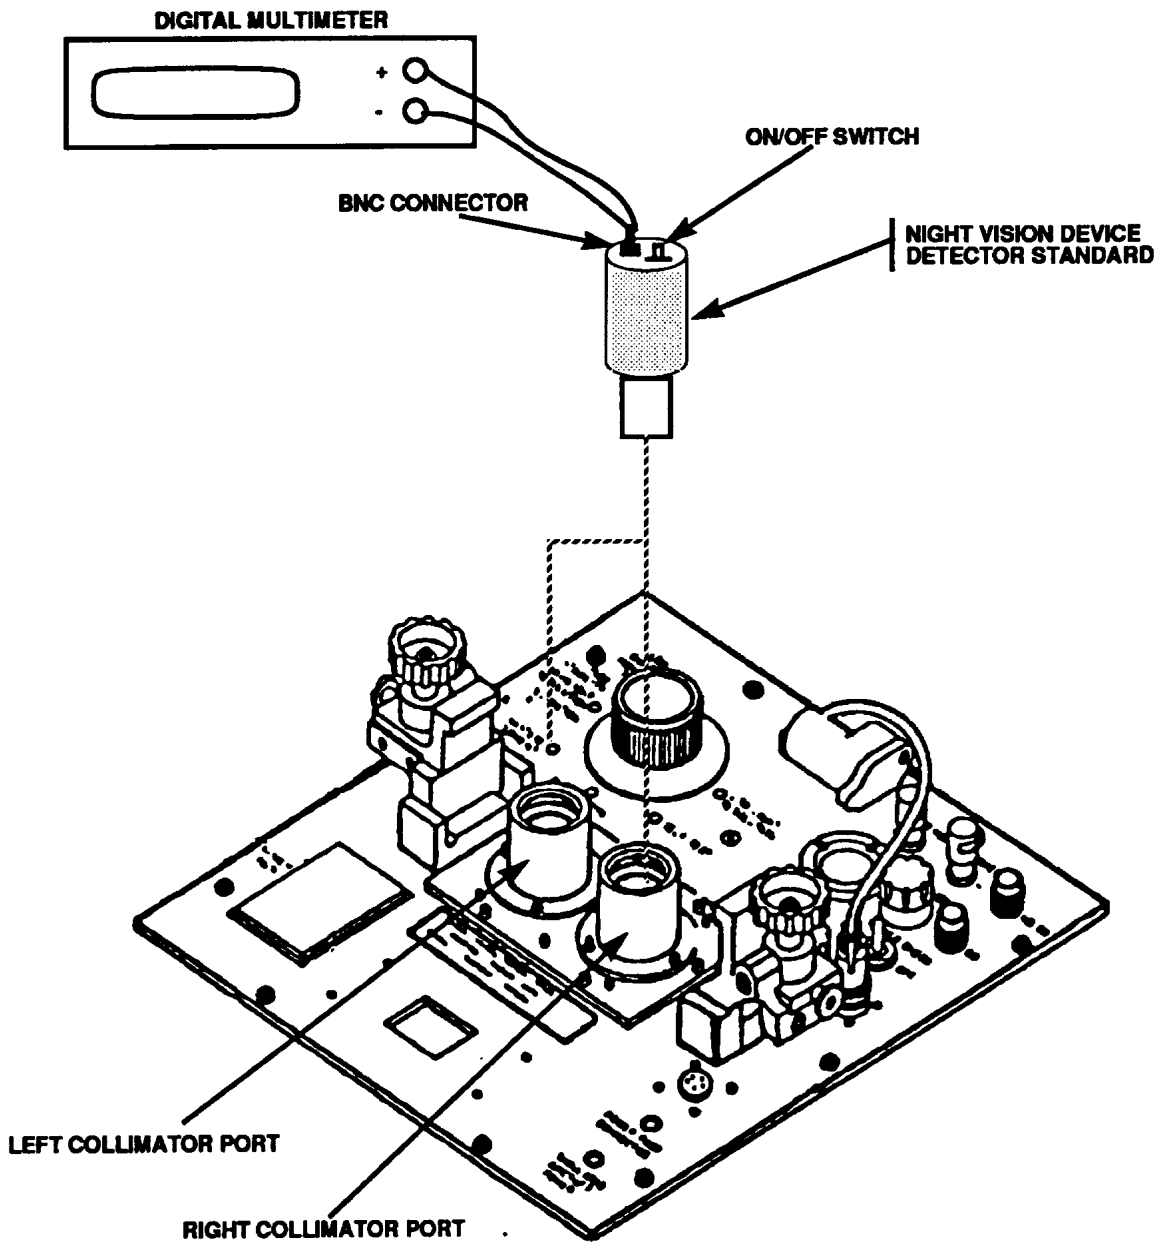
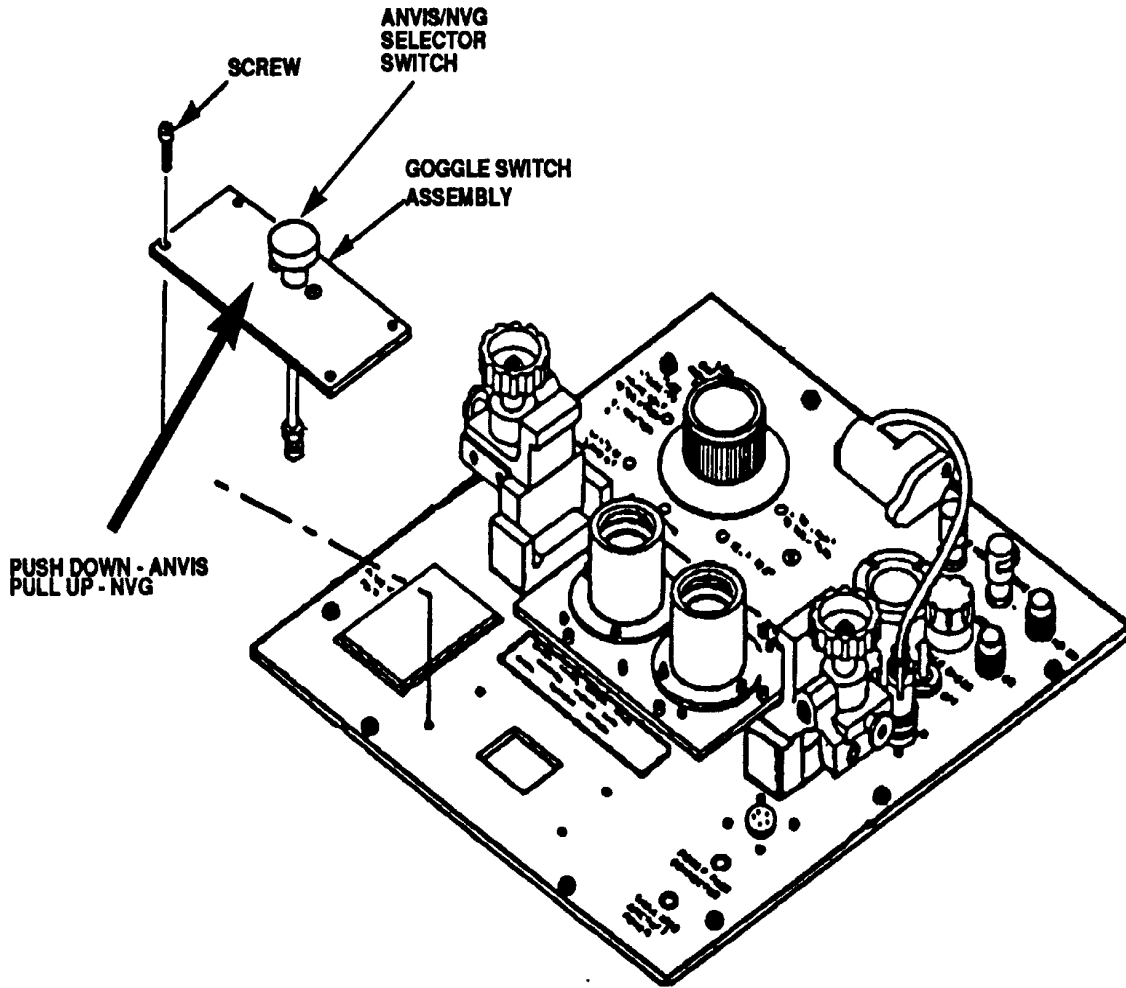
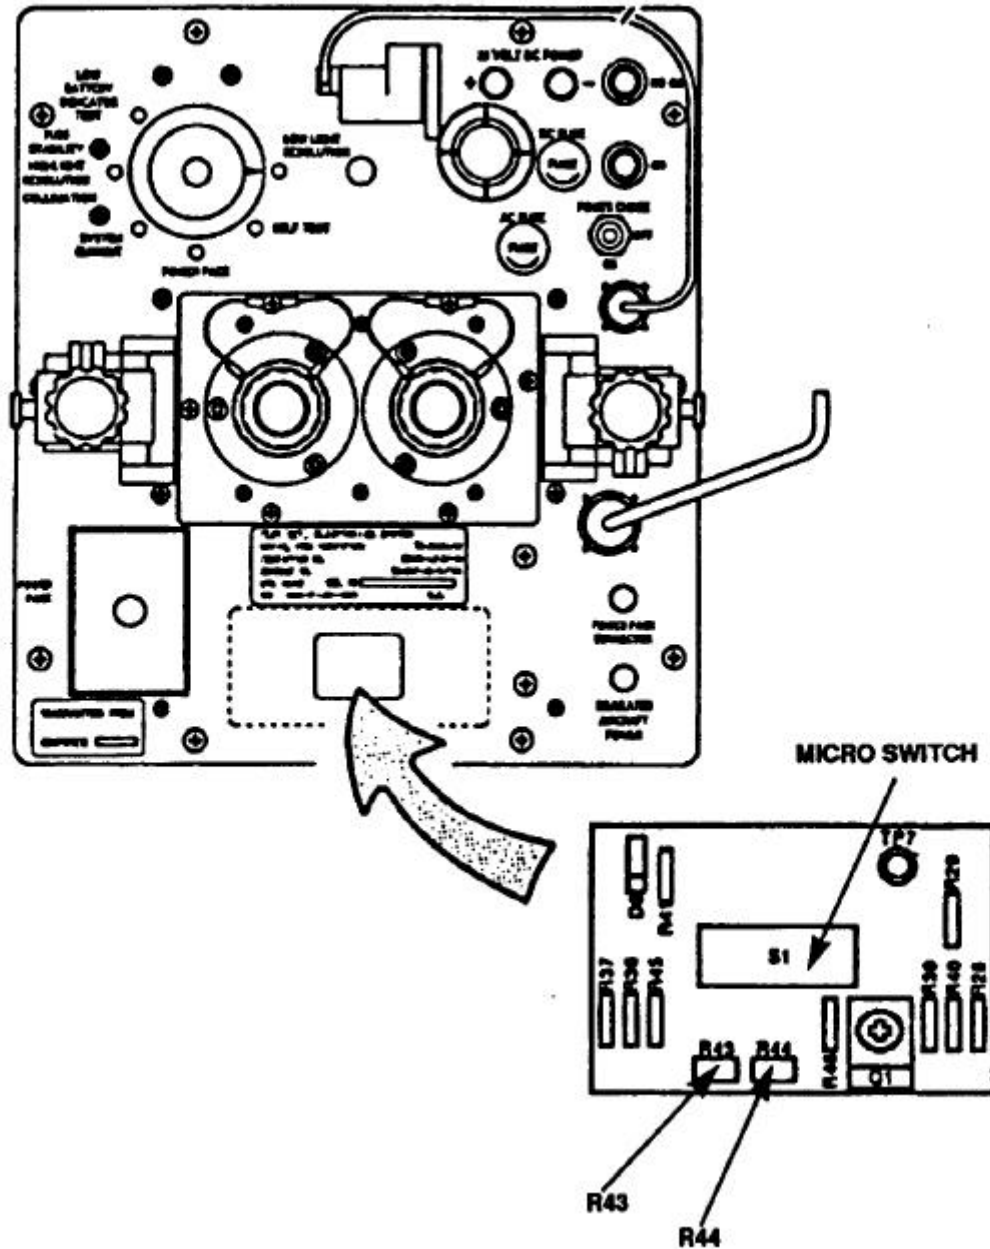

Figure 1. TS-3895A/UV control panel.
Figure 2. TS-3895A/UV control panel.
Figure 3. TS-3895A/UV - adjustment locations.
(1) Connect digital multimeter **HI** and **LO** input terminals to night vision device detector standard **OUTPUT** terminals using BNC CONNECTOR (fig. 1).
(2) Install night vision device detector standard into TI RIGHT COLLIMATOR PORT (fig. 1). Install lens cap/target over TI LEFT COLLIMATOR PORT (fig. 1).
(3) Turn night vision device detector standard power ON/OFF SWITCH (fig. 1) to ON and allow night vision detector standard to warm up 5 minute.
(4) Zero digital multimeter indication.
(5) Set TI **ON-OFF-POWER CHECK** switch to **ON** and rotate **FUNCTION** switch to **LOW LIGHT LEVEL RESOLUTION**.
(6) Pull TI ANVIS/NVG SELECTOR SWITCH (fig. 2) to NVG (up) position. If digital multimeter does not indicate between 3.04 and 5.90 mV dc, perform b (1), (2), and (4) below.
(7) Push TI ANVIS/NVG SELECTOR SWITCH (fig. 2) to ANVIS (down) position. If digital multimeter does not indicate between 0.82 and 1.60 mV dc, perform **b**(1), (3), and (4) below.
(8) Remove lens cap/target from TI LEFT COLLIMATOR PORT (fig. 1) and remove night vision device detector standard from RIGHT COLLIMATOR PORT (fig. 1) and install in TI LEFT COLLIMATOR PORT (fig. 1). Install lens cap/target over TI RIGHT COLLIMATOR PORT (fig. 1).
(9) Repeat (6) and (7) above.
(10) Rotate TI **FUNCTION** switch to **SELF TEST**. **GO** (green) light will illuminate.
(11) Rotate TI **FUNCTION** switch to **HIGHLIGHT LEVEL RESOLUTION**.
(12) Pull TI ANVIS/NVG SELECTOR SWITCH (fig. 2) to NVG (up) position. Digital multimeter will indicate between 0.570 and 1.710 V dc.
(13) Push TI ANVIS/NVG SELECTOR SWITCH (fig. 2) to ANVIS (down) position. Digital multimeter will indicate between 0.155 and 0.464 V dc.
(14) Remove lens cap/target from TI RIGHT COLLIMATOR PORT (fig. 1) and remove night vision device detector standard from LEFT COLLIMATOR PORT (fig. 1) and install in TI RIGHT COLLIMATOR PORT (fig. 1). Install lens cap/target over LEFT COLLIMATOR PORT (fig. 1).
(15) Repeat (12) and (13) above.
(1) Remove GOGGLE SWITCH ASSEMBLY (fig. 2) using tamper-proof bit.
Temporarily install GOGGLE SWITCH ASSEMBLY (fig. 2) after making adjustment.
(2) Adjust R43 (fig. 3) for a digital multimeter indication of 4.47 mV dc (R).
(3) Press S1 MICRO SWITCH (fig. 3) and adjust R44 (fig. 3) for a digital multimeter indication of 1.21 mV dc (R). Temporarily install GOGGLE SWITCH ASSEMBLY (fig. 2) with ANVIS/NVG SELECTOR SWITCH (fig. 2) in the down position.
(4) Install GOGGLE SWITCH ASSEMBLY (fig. 2) using tamper proof bit.